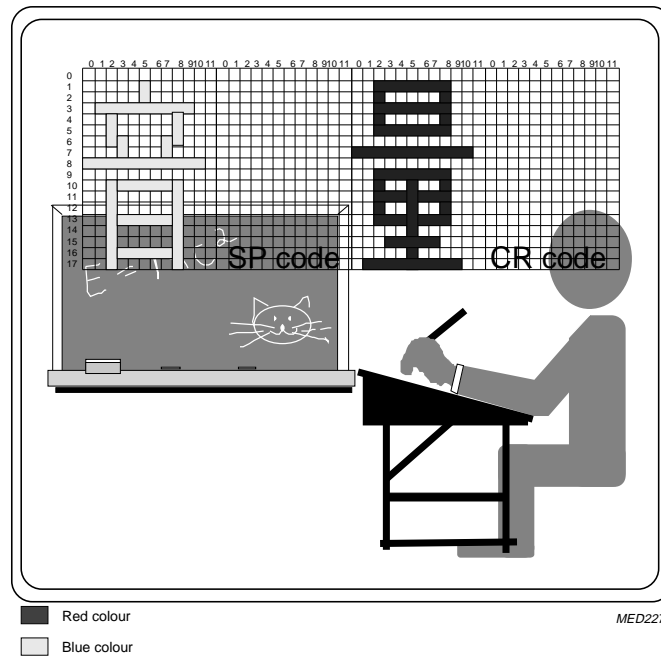

Fig.31 SP and CR codes in Mode 0: No background mode (superimpose; transparent pattern).
- Blinking OFF are shown in Figs 31, 32, 33 and 34.